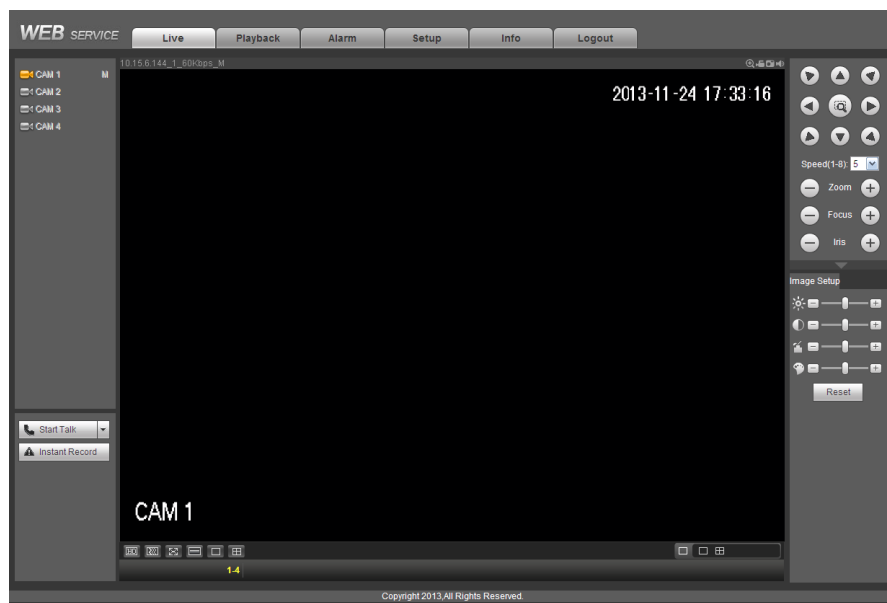

Figure 5-14
- 2) You can select different channels and different monitor modes at the bottom of the interface. See Figure 5-14.